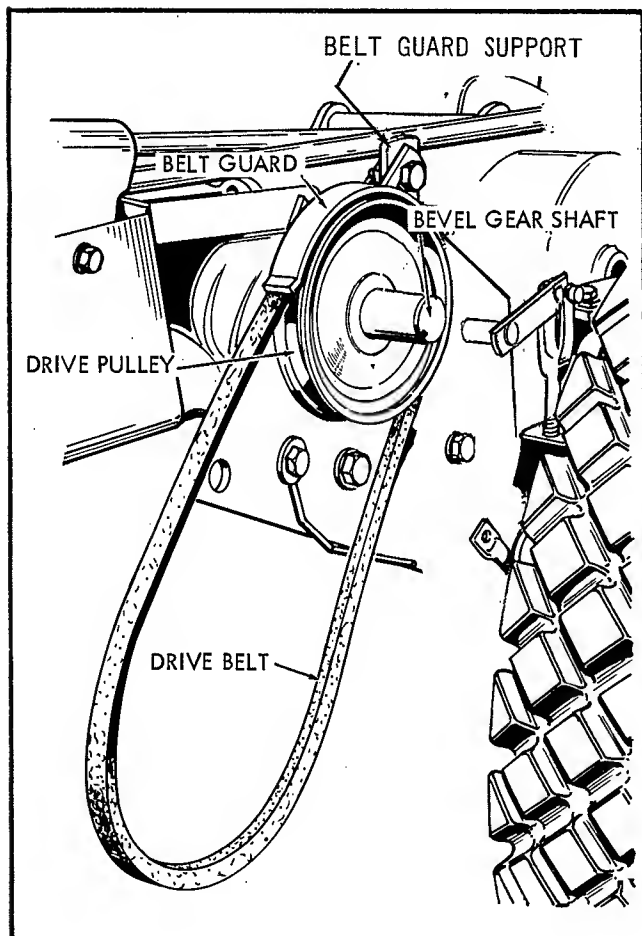

Fig. 1
1. Mount Drive pulley to shaft of bevel gear assembly (See Figure 1) and secure in place with key and set screw. Hub of Drive pulley is to face inward. Place drive belt on Drive pulley and mount belt guard support to inside surface of side plate nearest drive pulley. See Figure 5 for mounting bolt location. Attach the belt guard to the guard support as shown in Figure 1. Allow approximately 3/16" clearance between belt and guard.